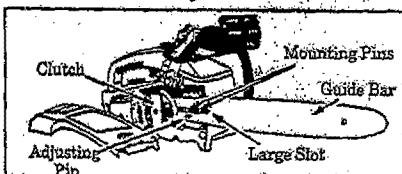

Figure 8
- Mount the guide bar with the large slot over the bar stud and the small adjusting pin through the small hole in the bar. Figures 8 & 9.